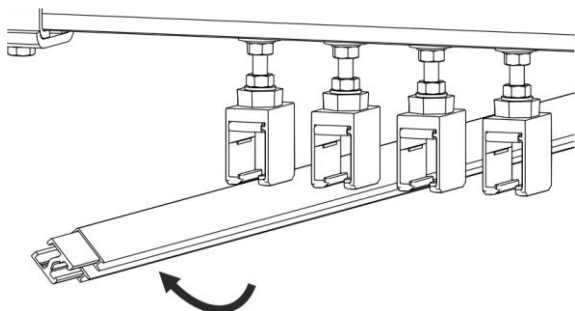
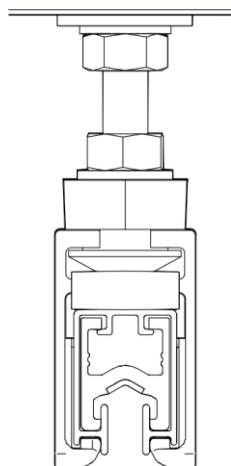

Fig. 73: Clip the rail into the hanger clamp
Fig. 74: The rail is clipped into the hanger clamp
- Insert the first conductor rail into the hanger clamp at approx. 45° and clip it in (see Fig. 73). Ensure that the conductor rails engage correctly, and the hanger clamp covers the insulation above and below (see Fig. 74).